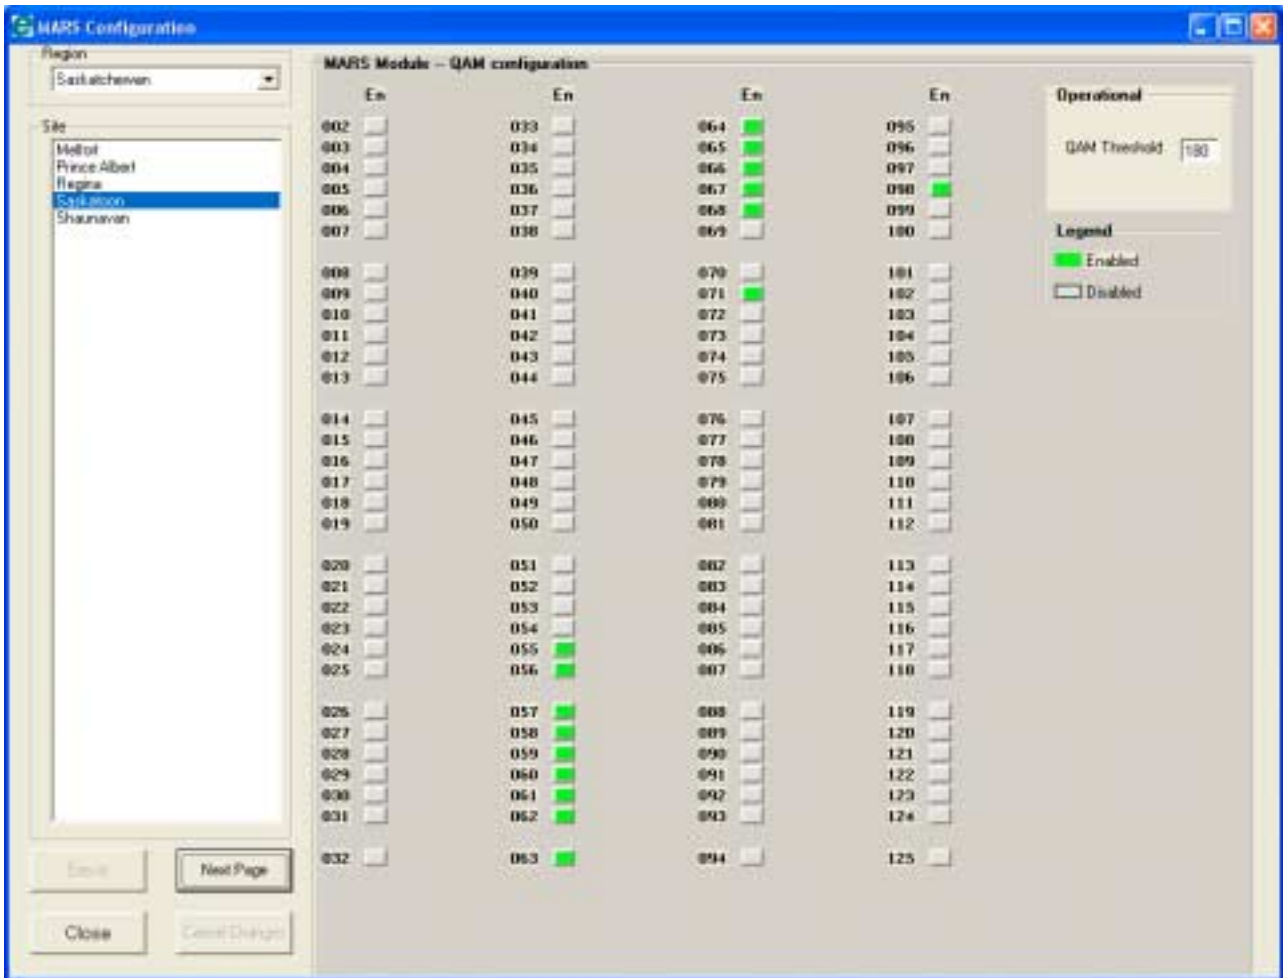

Figure 16: MARS Configuration, QAM Configuration Screen
10. Click **Next Page** until the "QAM configuration" screen is displayed (See **Figure 16, below**)